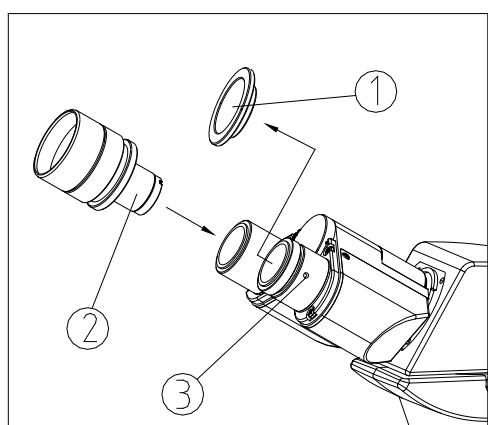

Fig. 5
1. Remove the cap on the eyepiece tube ①.
2. Insert an eyepiece ② into the eyepiece tube completely.
3. If desired, tighten the locking screw ③ with a 2.5mm hex wrench to secure the eyepieces in the eyetubes (see Fig. 5).